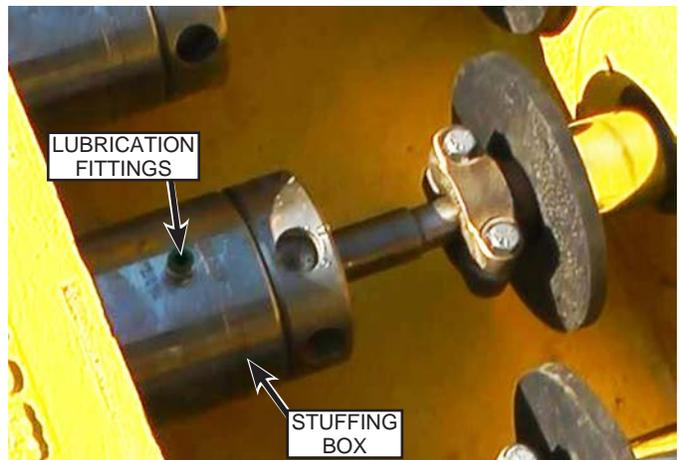

Fig. 48: Lubrication Fittings
10. Remove the water lubrication fitting (Fig. 48) from each stuffing box.